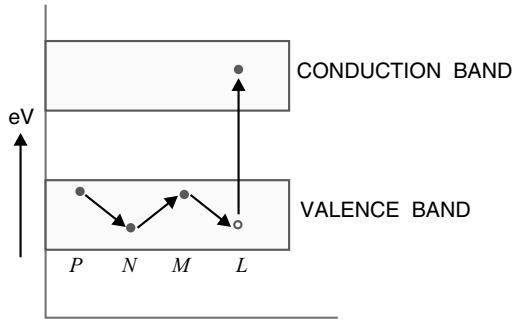

Fig. 3.9
**Energy band description.** The hole current can be beautifully explained in terms of energy bands. Suppose due to thermal energy, an electron leaves the valence band to enter into the conduction band as shown in Fig. 3.9.